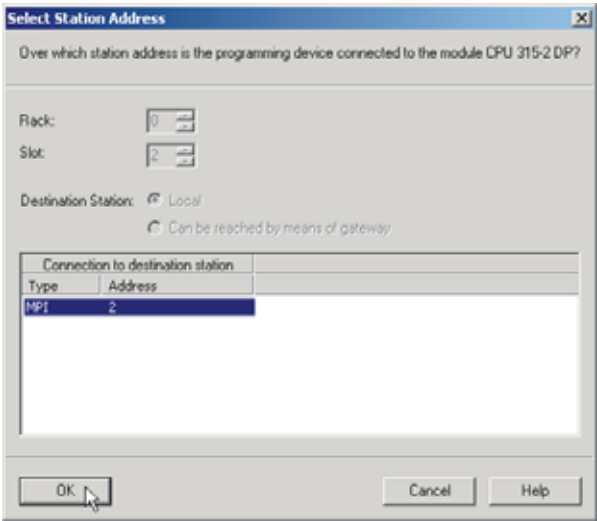

FIG. 147: SELECT STATION ADDRESS DIALOG BOX
Step 13. Click on OK. The Select Station Address Dialog box appears. (See Fig. 147)